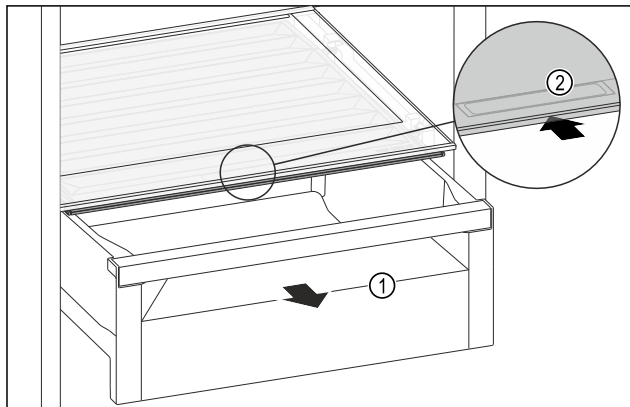

Fig. 169
- Pull out the drawer Fig. 169 (1).
- Grasp the recessed grip Fig. 169 (2) on the compartment lid and push the compartment lid backwards at the same time.